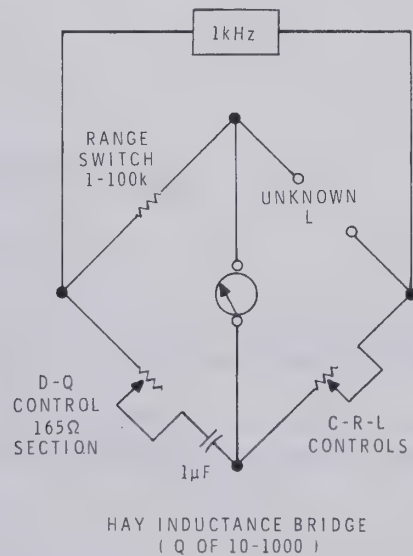

Figure 8
The Hay bridge circuit (Figure 8) is used to measure inductances when the storage factor (Q) of the unknown inductance is between 10 and 1000. In this circuit, which is a modification of the Maxwell bridge, the "standard" capacitor is in series with the D-Q control.